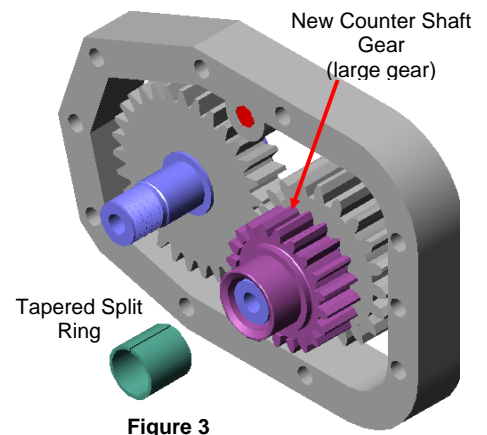

Figure 3
3.6 Install new countershaft gear to the transmission countershaft. Insert tapered split ring (tapered end first) into the countershaft gear. Install ring seat tool and spring to counter shaft and new countershaft gear. Torque ring seat tool to **40 ft-lb's**. Figures 3 and 4